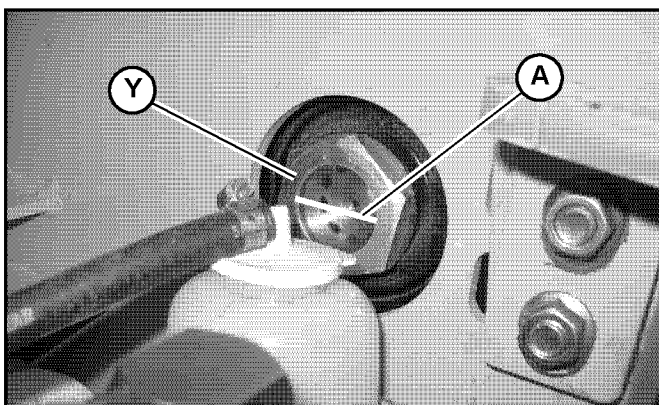

Fig. 134 – Hydraulic Oil Level Sight Gauge
10. Remove hydraulic breather/oil fill cap (P or B, Fig. 132) and add hydraulic oil until the level reaches the middle of the sight glass (A, Fig. 134). Replace and tighten the hydraulic oil fill cap. Close the engine compartment.